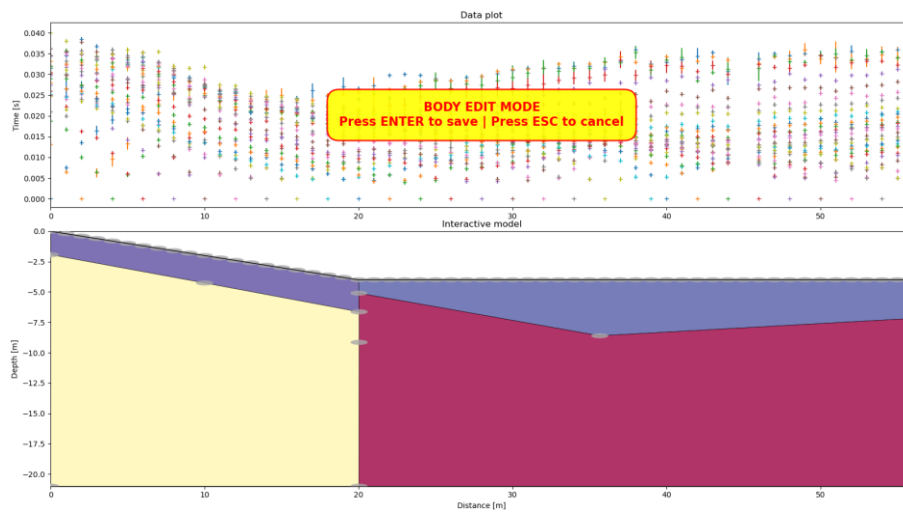

Fig. A3: Model after joining the new triangular body with the red one.
- 2) Make a right click into the red body followed by a click into the new triangular body. Both bodies will be joined and, since the first click was located inside the red body, the combined body has the properties of the red body (Fig. A3).